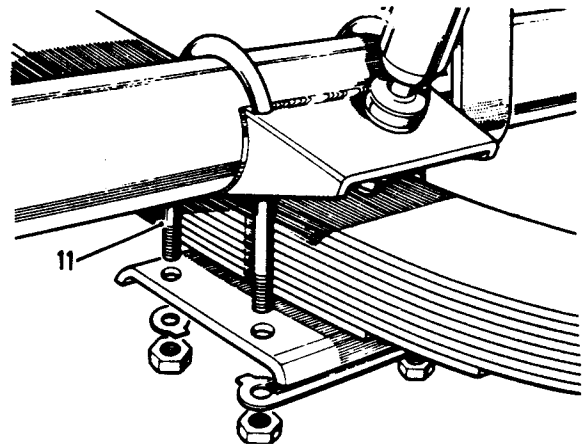

Fig J1.12
(3) Refer to Fig J1.12. Replace the four U-bolts.